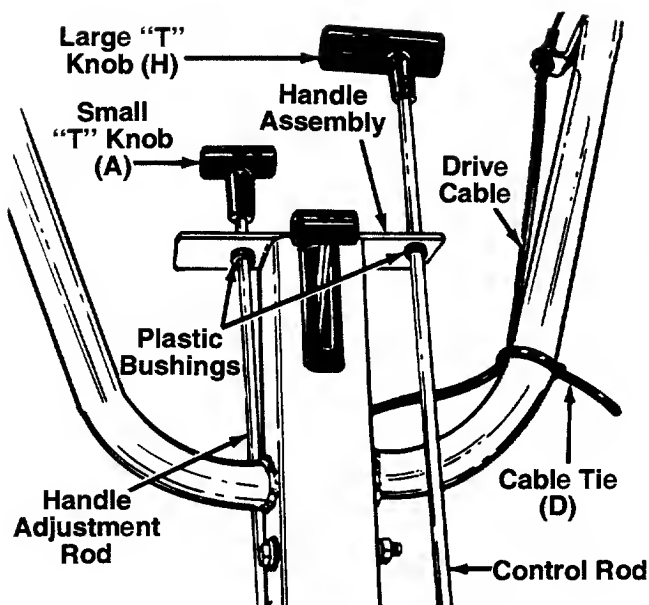

FIGURE 12.
26. Insert the threaded end of control rod up through the plastic bushing on the left side of handle assembly. See figure 12. Thread the large "T" knob (H) on the end of control rod.
27. Insert the threaded end of handle adjustment rod up through the plastic bushing on the right side of handle assembly. Thread the small "T" knob (A) on the end of handle adjustment rod.
30. Secure drive cable to left handle using cable tie (D). Refer to figure 12. Cut off excess end of cable tie.